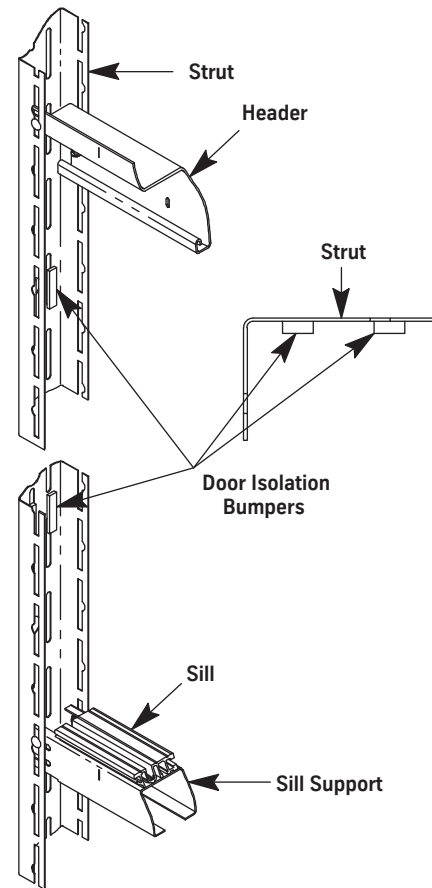

Figure 11 - Door Isolation Bumpers
3. Install the door isolation bumpers. See Figure 11 on page 7-15.